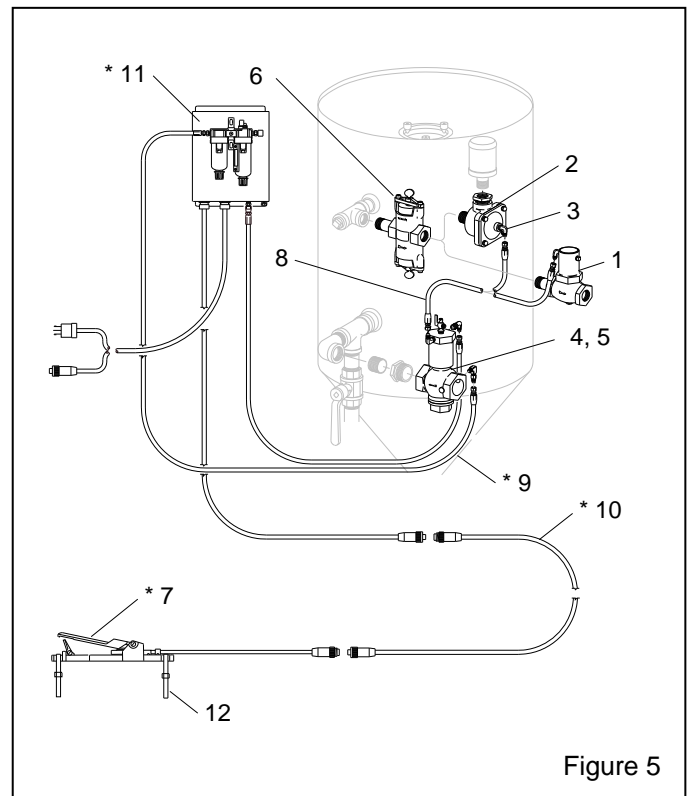

Figure 5
**7.3 Standard, Non-ACS Systems, Figure 5**